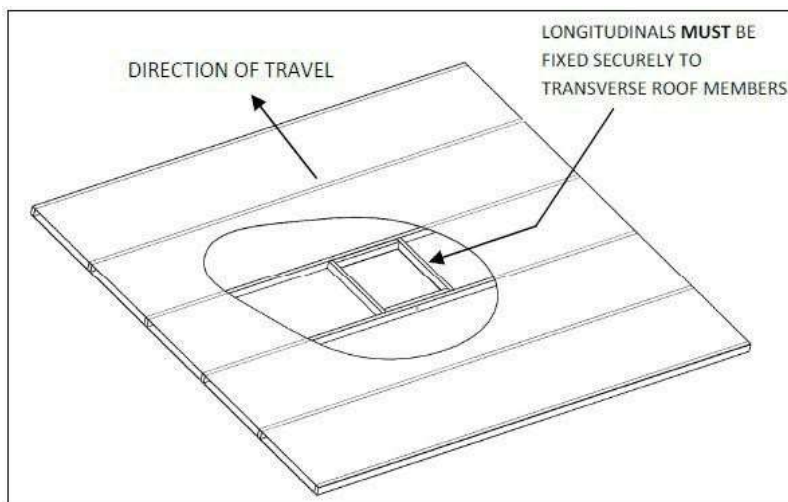

Fig 3: Shows an ideal roof structure with strong longitudinals and a 14' hole boxed
- The square hole in the roof (14” x 14”) **MUST** be boxed up with minimum 3/4 inch square timber to provide a structure strong enough to withstand the compression of the installation bolts. This is also to ensure that air is not drawn from the roof cavity (Fig 3 & 4). Remember to leave access for wiring.
- Longitudinals **MUST** be fixed securely to the transverse roof members to transfer load (see Fig 3).
4. Press the cable sheath into the integral strain relief slot as shown in **Figure 2**. Wires must not extend beyond the stops as shown in **Figure 3**!
5. While holding the strain relief cover, position the housing's hinge posts into the hinge slots and press down until both lock into place as shown in **Figure 3**.